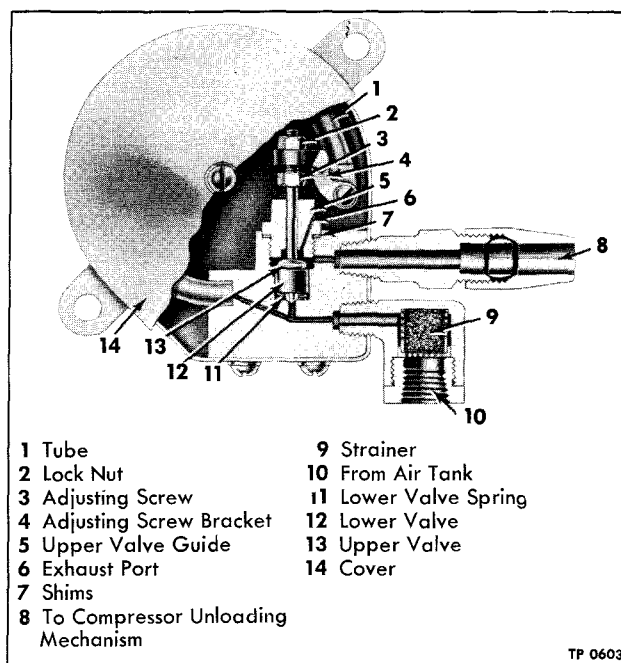

Figure 26—Air Compressor Governor
GOVERNOR OPERATION (Fig. 26)
GOVERNOR ADJUSTMENT (Fig. 26)
GOVERNOR TEST (Figs. 26 and 27)
GOVERNOR DISASSEMBLY (Fig. 26)
GOVERNOR ASSEMBLY (Fig. 26)
2. Install lower valve spring (11) and lower valve (12) in recess in governor body. Install shims (7) in body, being sure to use same thickness of shims as were removed.
3. Insert upper valve stem (13) through upper valve guide (5) and thread upper valve guide into body. Tighten guide firmly.
4. Install adjusting screw (3) and lock nut (2) in adjusting screw bracket (4) and install bracket on end of tube (1). Tighten screw attaching bracket to tube firmly.
8. Thread air strainer into lower opening in governor body and tube connection into upper opening. Tighten firmly, with air strainer positioned as shown in figure 26. Plug both openings against entrance of dirt during installation.